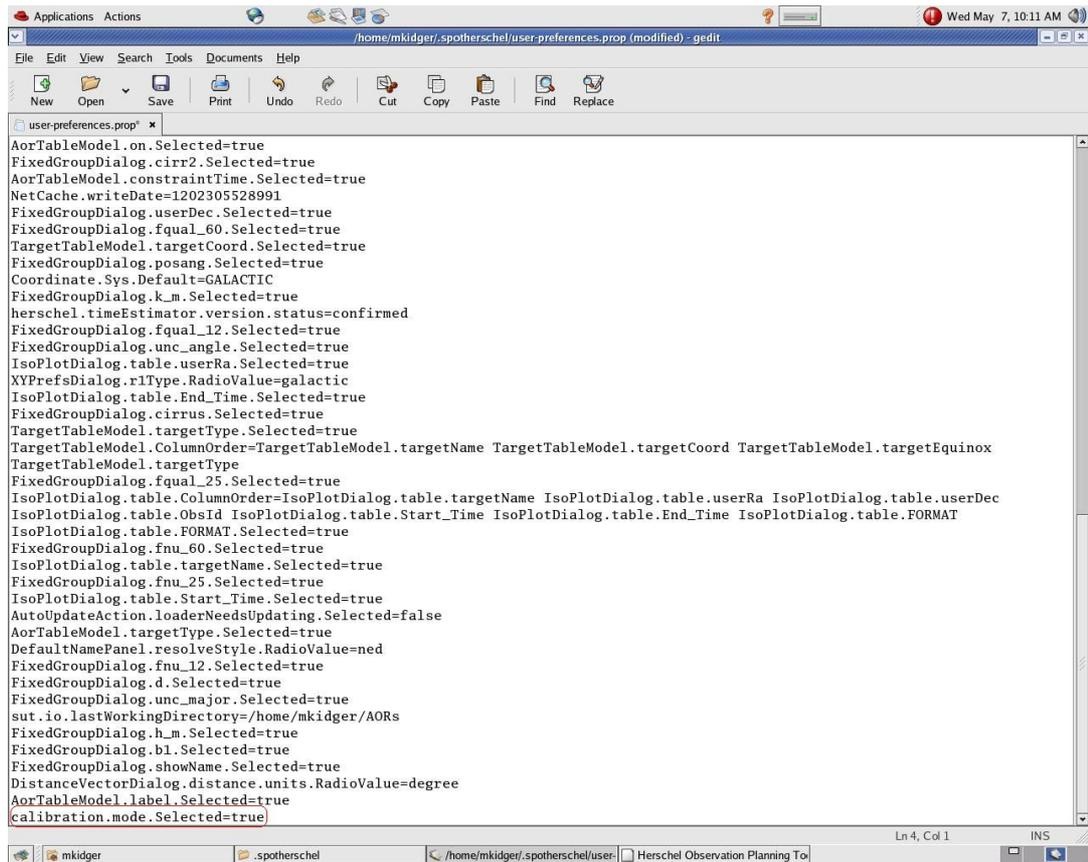

Figure 2.1. The "user-preferences.props" file showing the additional line that must be added, circled in red, to make Expert HSpot visible.
- Insert the line "calibration.mode.Selected=true", as shown in Figure 2.1 and save the modified file to make the change effective.